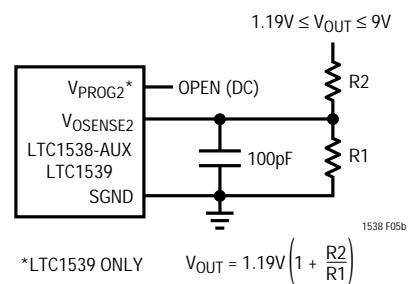

Figure 5b. LTC1538-AUX/LTC1539 Adjustable Applications
(DC) and the V_{OSENSE2} pin is connected to the feedback resistors as shown in Figure 5b. Controller 2 will force the externally attenuated output voltage to 1.19V.